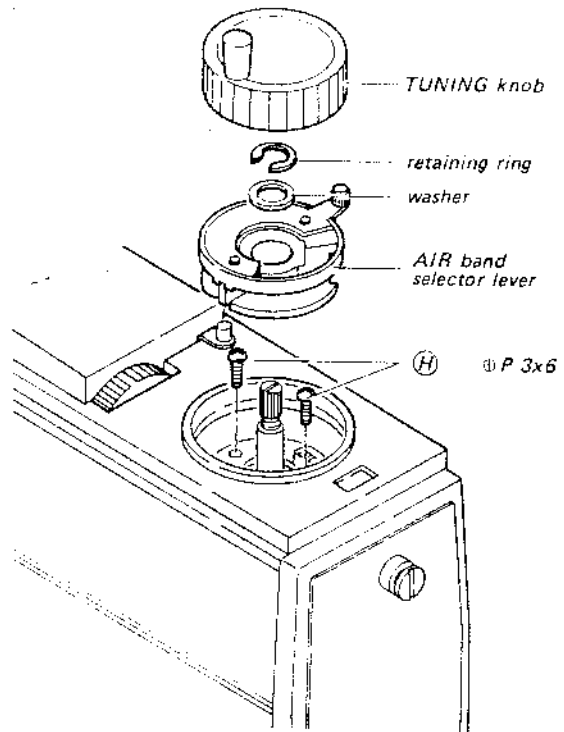

Fig. 2-5
5. Take out the AIR band selector lever shown in Fig. 2-5.
6. Remove the two screws (Ø P 3x6) marked (H) in Fig. 2-5.